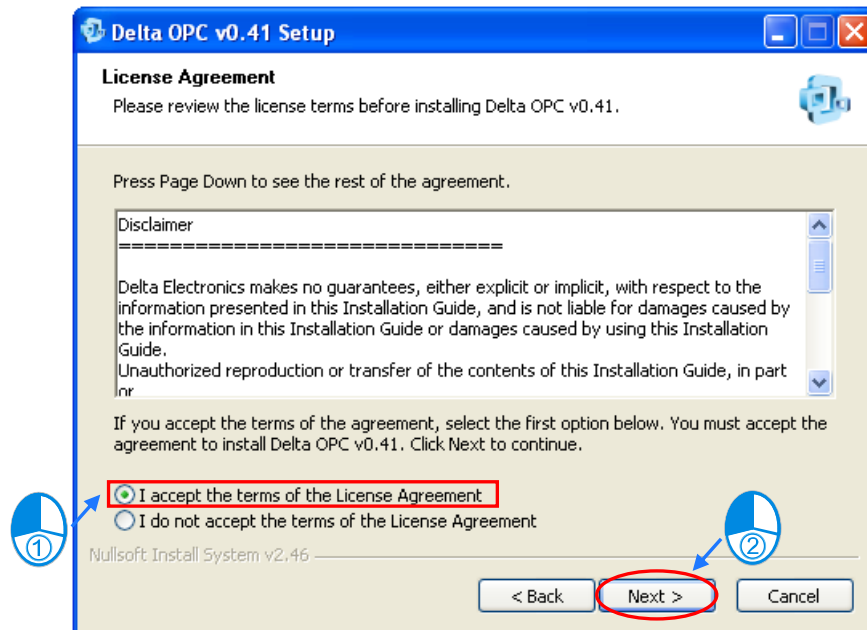

Figure 1-3 License agreement
- (3) Read the license terms in the license agreement window. If the users agree to the terms, they have to select the **I accept the terms of the License Agreement** option button, and click **Next**, as shown in figure 1-3. If the users do not agree to the terms, they have to click **Cancel**.